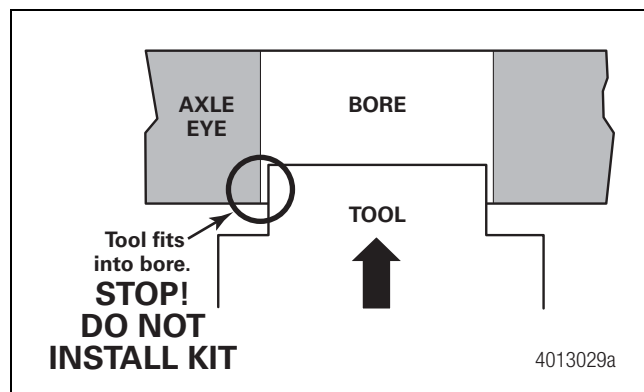

Figure 2
- If the gauge fits into either one of the axle eye bores: Do NOT proceed any further. The bore is too large due to excessive wear and must be serviced per axle OE specifications. Figure 2.